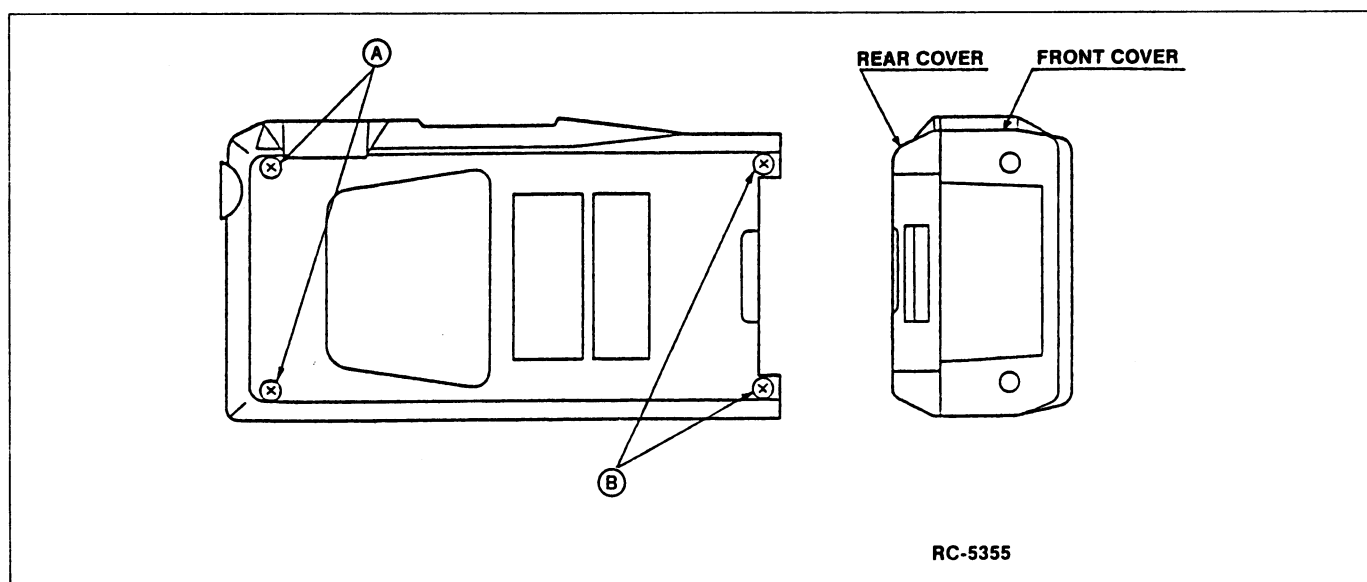

FIGURE 14 - DISASSEMBLY STEP 1
To gain access to the radio, loosen, but do not remove, the four screws at (A) and (B). Carefully remove the back cover. For normal radio alignment, the back cover is all that need be removed. When tightening the screws, they should be no tighter than 4 +0.5 inch-pounds (See Figure 14).